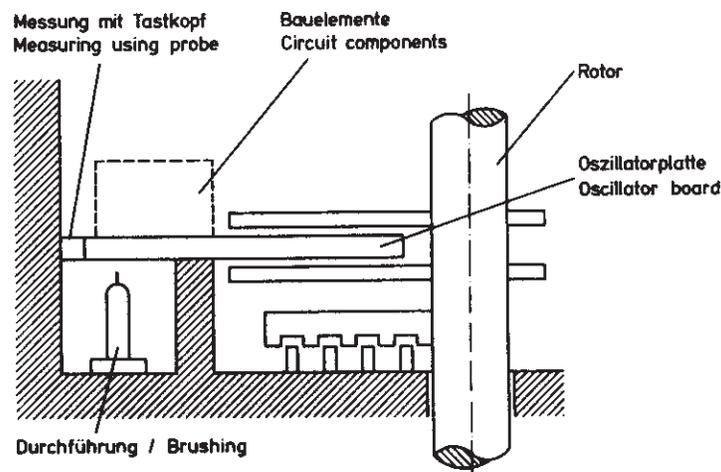

Fig. 5-1 Construction of oscillator
**Checking the operating voltage of the oscillator (-18 V):** The operating voltage is fed to the oscillator segments from below via lead-through chokes (deviation network); see Fig. 5-1. Press the button of the frequency range concerned. Turn the tuning knob until the dial drum has made a full revolution. The operating voltage must be present with the pointer (coloured arrow) up to 1 cm beyond the scale ends. Further off, no operating voltage must be present.